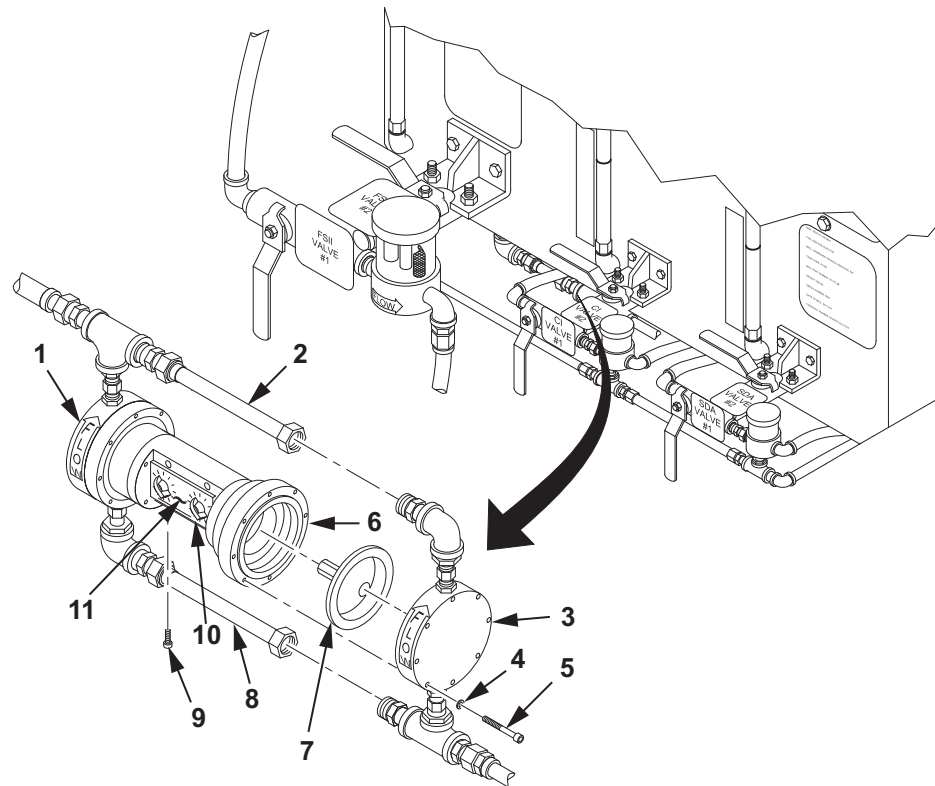
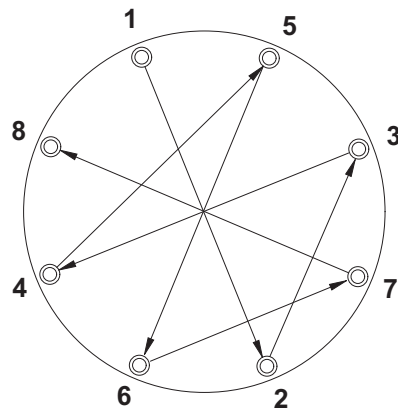

Figure 2. FSII Injection Pump Diaphragm Installation.
Figure 3. Torque Sequence Diagram.
1. Install new FSII pump diaphragm (Figure 2, Item 7) into FSII injection pump (Figure 2, Item 1) by rotating clockwise.
2. Rotate stroke adjustment knob (Figure 2, Item 10) clockwise to position marked on power frame cover (Figure 2, Item 11).
3. Tighten setscrew (Figure 2, Item 9).
4. Position fluid end cap assembly (Figure 2, Item 3) on adapter ring (Figure 2, Item 6) ensuring proper alignment with suction and discharge tubes (Figure 2, Item 2, 8).
5. Apply antiseize compound to eight screws (Figure 2, Item 5).
6. Install eight new lockwashers (Figure 2, Item 4) and screws (Figure 2, Item 5) through fluid end cap assembly (Figure 2, Item 3) into adapter ring (Figure 2, Item 6).
7. Hand tighten eight screws (Figure 2, Item 5) finger tight.
8. Using torque wrench, screwdriver bit and torque sequence diagram (Figure 3), torque eight screws (Figure 2, Item 12) to 40 in. lb (4.52 N•m).
9. Connect suction tube (Figure 2, Item 8) to fluid end cap assembly (Figure 2, Item 3). Tighten suction tube (Figure 2, Item 8).
10. Connect discharge tube (Figure 2, Item 2) to fluid end cap assembly (Figure 2, Item 3). Tighten discharge tube (Figure 2, Item 2).